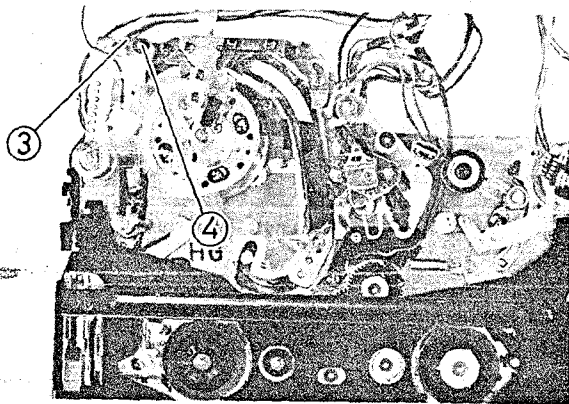

Fig. 2-59 Full Erase (FE) Head Removal
3. Remove the spring between the FE head base and chassis. (See Fig. 2-59)